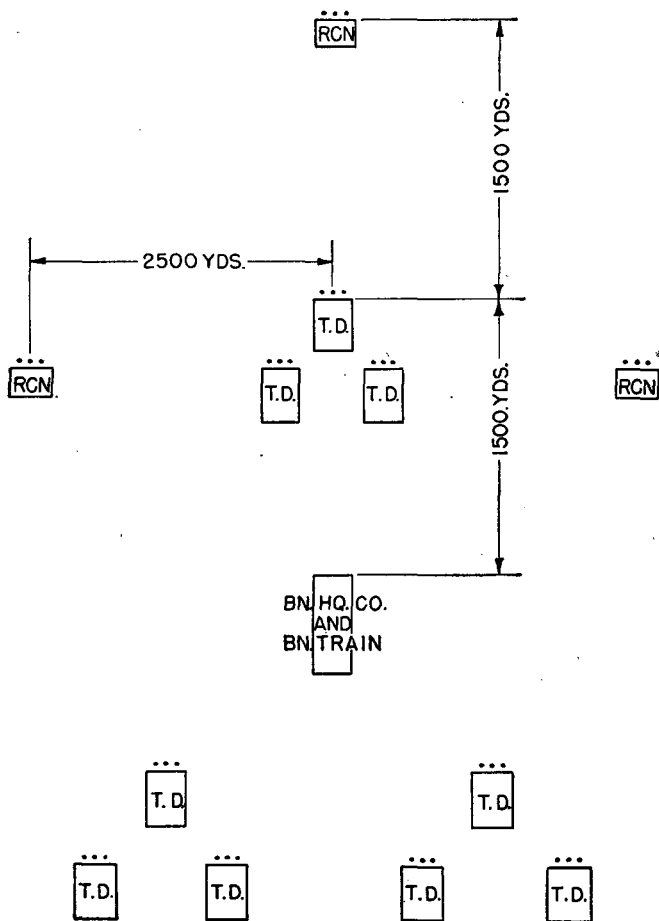

FIGURE 40.—Battalion operating alone (not to scale).
(2) For details of drill for medical detachment see FM 8-5.
i. *Tank destroyer battalion.*—A formation for a tank destroyer battalion operating alone is shown in figure 40.